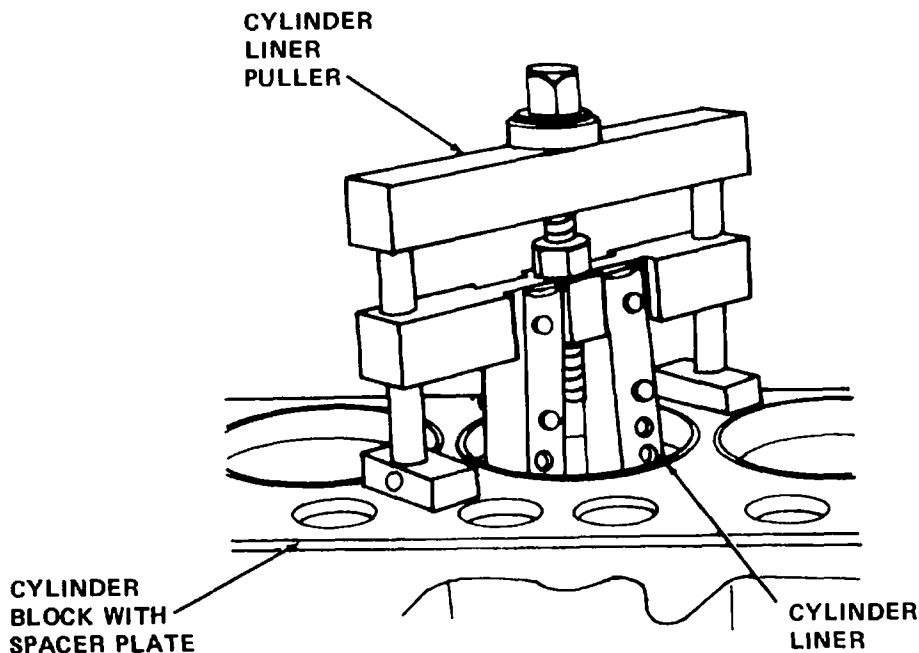

Figure 11-40. Cylinder Liner Removal
d. Use a cylinder liner puller to remove cylinder liners (see figure 11-40). Tag liners to ensure proper reassembly.